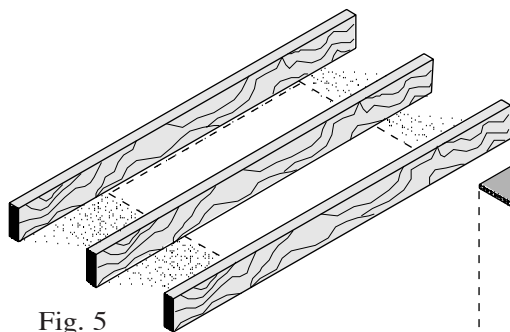

Fig. 5
STEP 2. Return to the attic, and using a utility knife or sheetrock saw carefully cut the shutter opening following the pattern on both sides of the joist. (See fig. 5).